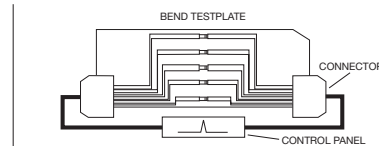

Fig 1 - PCB layout with electrical connections
- Components soldered onto FR4 PCB (Figure 1)